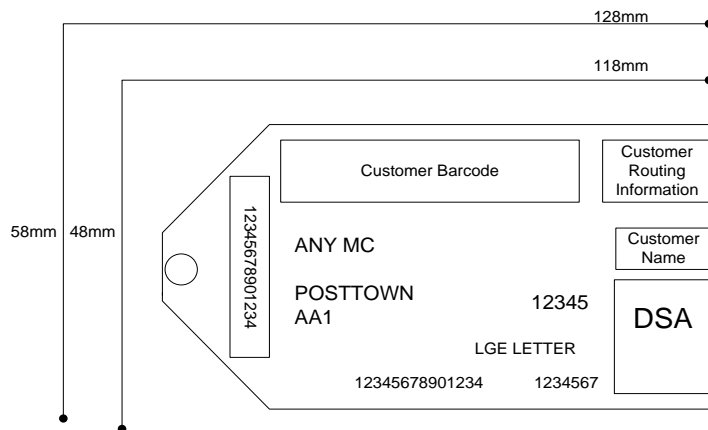

Figure 14: Label clear zones
- A 5mm clear zone must be provided around the 'label area'. Consequently, an area of 128mm by 58mm is required for the label and its clear zone as illustrated in Figure 14 below: